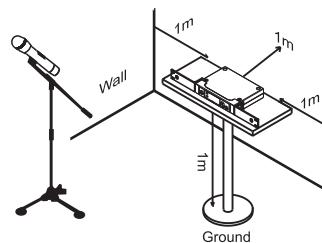

Fig. 12
4. For ideal reception and performance, install the receiver at least 1 meter (3 feet) above the ground and away from EMI / RFI “noise” sources. Fig. 12